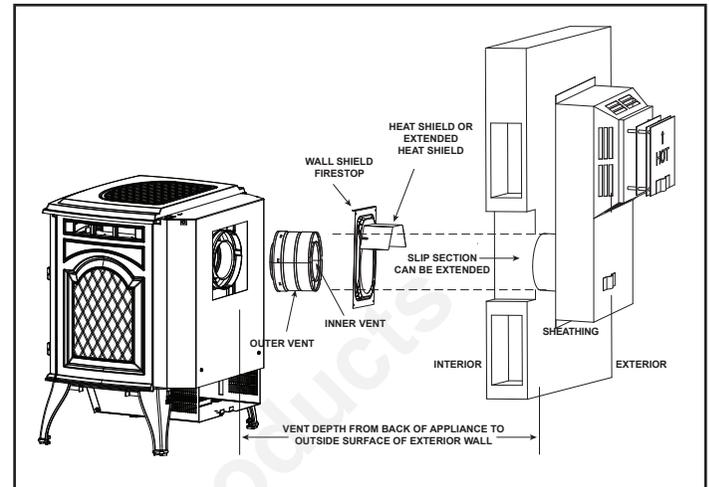

Figure 7.18 - Venting through the wall
- **DO NOT** remove the heat shields attached to the wall shield firestop and the horizontal termination cap (shown in Figure 7.18).
There are two sections of the heat shield. One section is factory-attached to the wall shield firestop. The other section is factory-attached to the cap. See Figure 7.18.